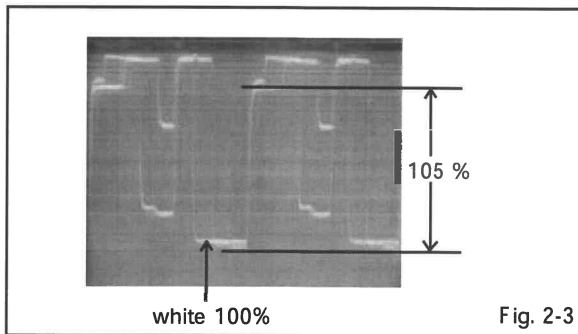

Fig. 2-3
6. Press the VOL. UP/DOWN button on the remote control until the red color level is adjusted to  $105 \pm 5\%$  of the white level. (Refer to Fig. 2-3)